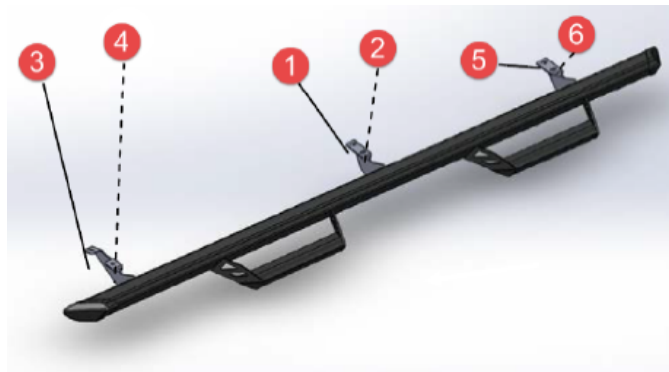

Figure 6
- Following the tightening sequence. Torque the “Outside bolts” to 17 ft/lbs. See Figure 6.
- Following the tightening sequence. Torque the “Inside bolts” to 17 ft/lbs. See Figure 6.